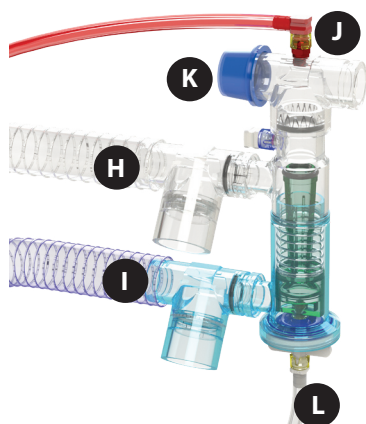

Fig. 4
9. Remove wye from heated-wire circuit and attach white corrugated tubing to the clear expiration port valve on the Phasitron® (**Fig. 4, H**).
10. Connect blue corrugated heated-wire tubing to blue Phasitron® entrainment port (**Fig. 4, I**).
11. Connect red tubing quick-connect fitting to middle tee connected to Phasitron® (**Fig. 4, J**).
12. Install blue cap onto one end of Phasitron® tee (**Fig. 4, K**).
13. Connect clear tubing quick-connect fitting onto Phasitron® cap (**Fig. 4, L**).